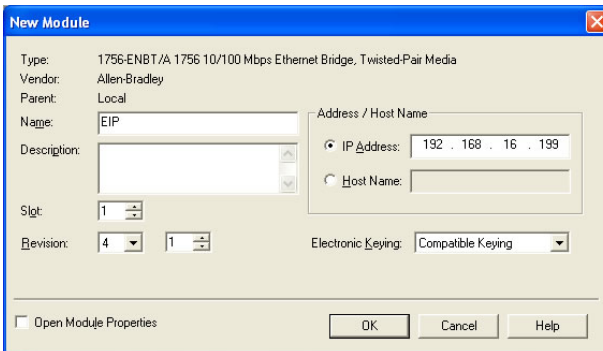

Figure 76: Configuring the New Module
- 6) The "New Module" window will open. Refer to Figure 76.